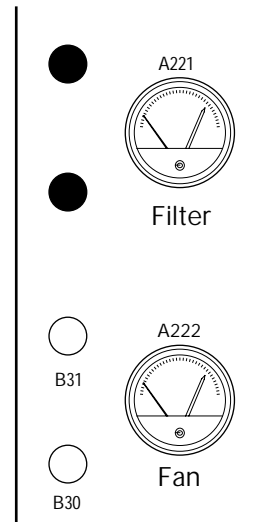

Figure 3
- "Fan pressure monitoring" is indicated optically on the pressure gauge, and an optical, and acoustic alarm is released by two manostats, B30 and B31 (See Fig. 3).